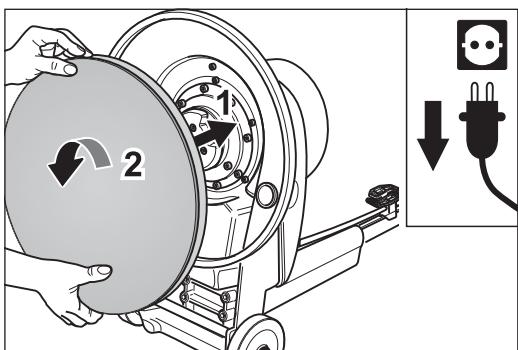

Fig. 5 Push on the sanding plate and turn it anti-clockwise until it reaches the mechanical stop.
- 6 Push the sanding plate centrally onto the gear mount and turn it anti-clockwise until it reaches the mechanical stop (Fig. 5).